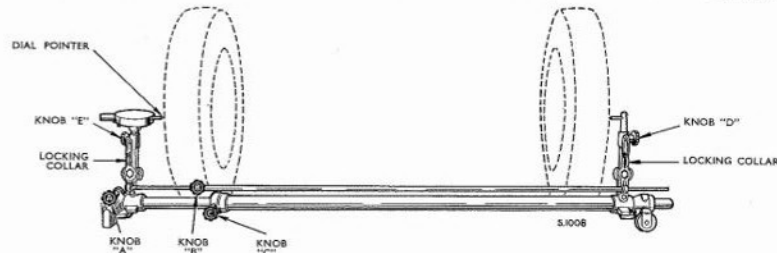

Fig. J.4. Churchill Tracking Gauge in position in front of the front wheels
1. Lock the vertical arms parallel by means of the locking collars (see Fig. J.4).
3. Loosen knobs B and C (Fig. J.4), so that the gauge can be adjusted to the width of the vehicle.